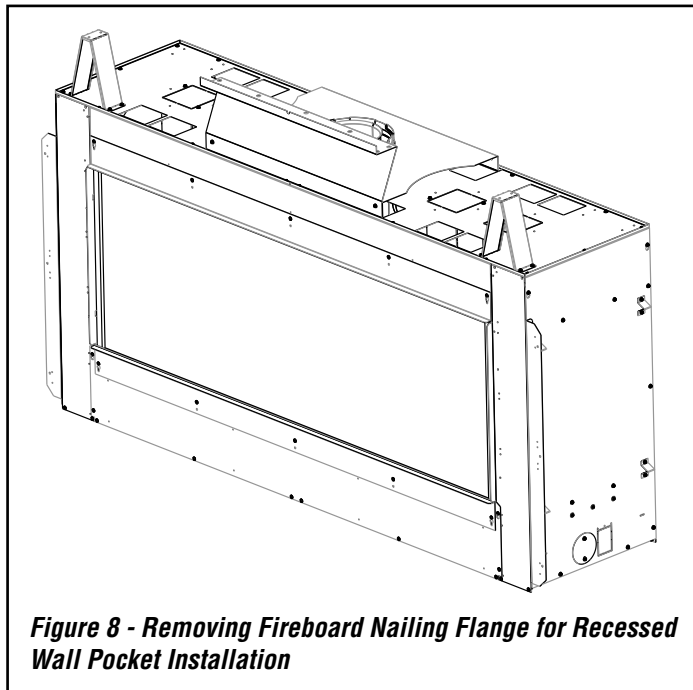

Figure 8 - Removing Fireboard Nailing Flange for Recessed Wall Pocket Installation
3. Headers may be in direct contact with the top of the nailing flange, maintaining the 11" clearance to the fireplace top, but must not be supported by them or notched to fit around them after self supporting (see **Figure 4**). All construction above the fireplace must be self-supporting. **DO NOT** use the fireplace for structural support. **NOTE:** On a recessed wall pocket installation, discard fireboard nailing flange leaving fireplace top spacers and heatshield (see **Figure 8, Page 15**). Header may be in direct contact with the fireplace top spacers and heatshield maintaining the 7-1/2" clearance to the fireplace top.
NOTE: On a recessed wall pocket installation, discard fireboard nailing flange leaving fireplace top spacers and heatshield (see **Figure 8**). Header may be in direct contact with the fireplace top spacers and heatshield maintaining the 7-1/2" clearance to the fireplace top.
NOTE: Remove Fireboard Nailing Flange for recessed installation (**Figure 8**).